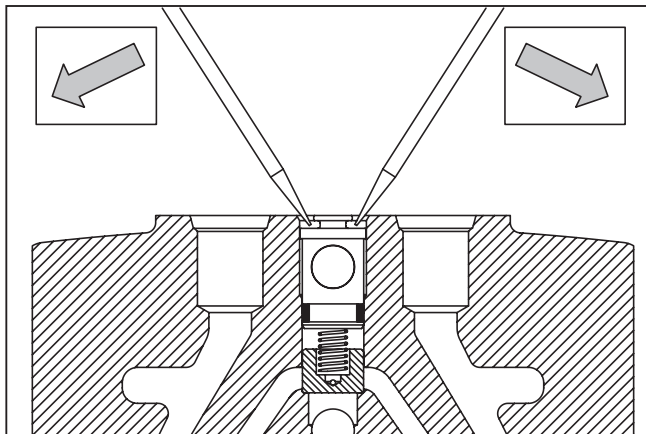

Figure 28
- 2) Insert 2 screw driver heads under the lip of the load check plug, as shown in Figure 28.